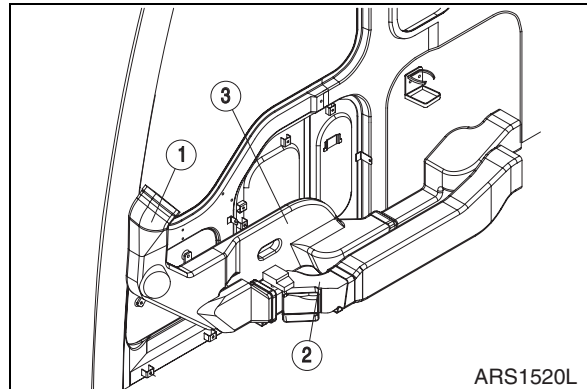

Figure 12
14. Install air duct (3, 2 and 1, Figure 12) located at right side of cab.